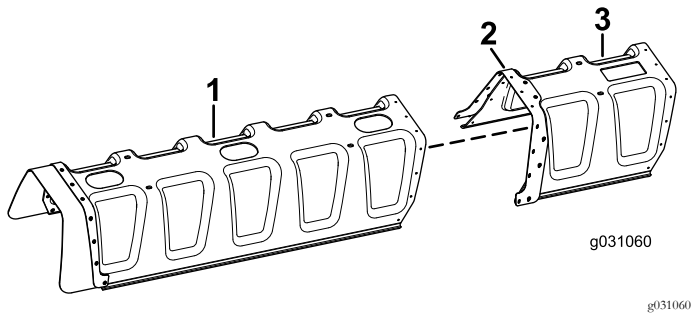

Figure 5
1. Align the holes on the 11-nozzle boom cover with the holes on the reinforcement plate attached to the 12-nozzle boom cover (Figure 5).